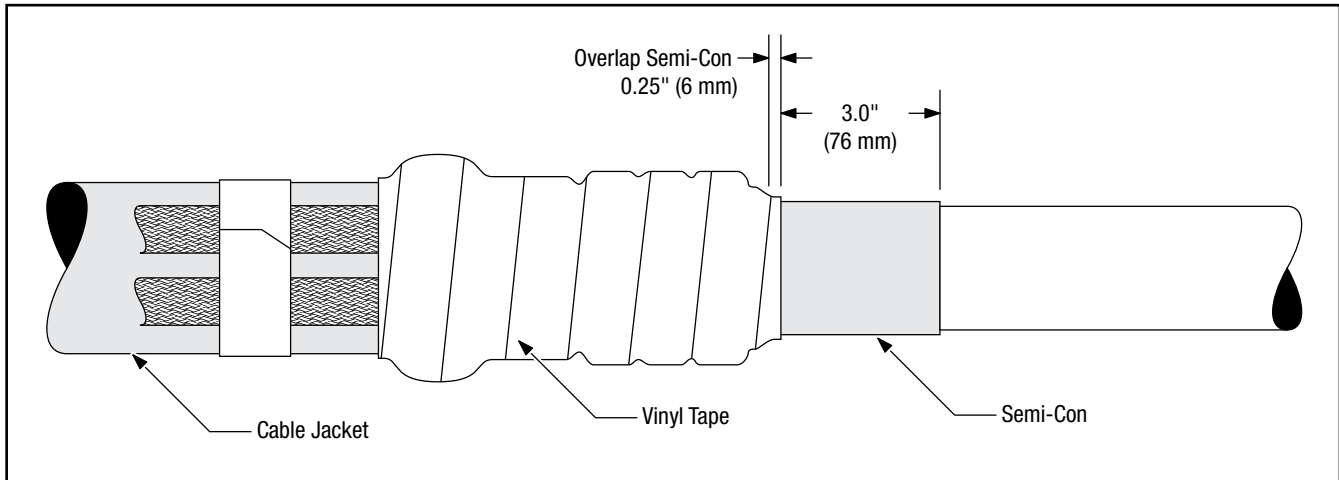

Figure 9
- 2.8 Wrap two half-lapped layers of highly-tensioned Scotch® Vinyl Electrical Tape Super 88 over the mastic seal and constant force springs. Cover all exposed mastic, constant force springs and tape shield, overlapping 0.25" (6 mm) onto the exposed cable semi-con. (Figure 9)